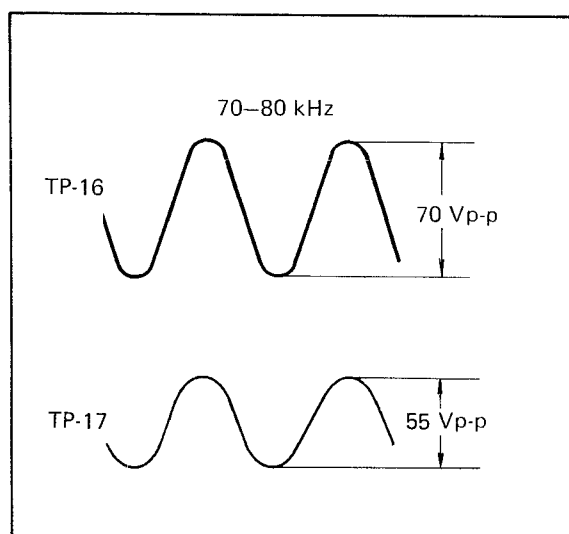

Fig. 6-40 Bias level
3. Adjust R174 (BIAS LEVEL) so that the level of TP-16 is 70 Vp-p and also, check TP-17 (F.E.H. IN) is 55 Vp-p as shown in Fig. 6-40.